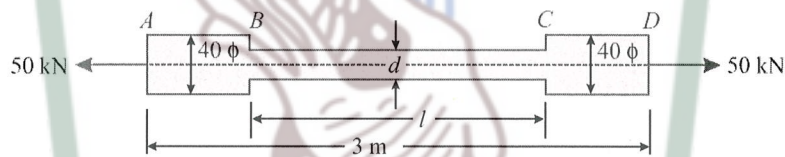

Fig.1
- 3 a) An alloy circular bar ABCD 3 m long is subjected to a tensile force of 50 kN as shown in fig. 1. If the stress in the middle portion BC is not to exceed 150 MPa, then what should be its diameter? Also find the length of the middle portion, if the total extension of the bar should not exceed by 3 mm. Take E as 100 GPa. All the diameters are in mm.